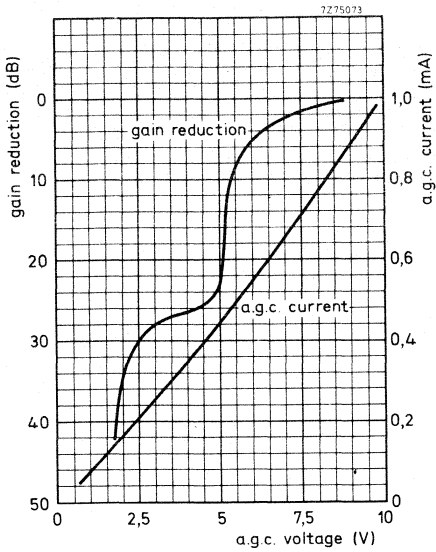

Fig. 4.
A.G.C. voltage (Fig. 4), at nominal gain + 9,2  $\pm$  0,5 V
**A.G.C. current (Fig. 4)**